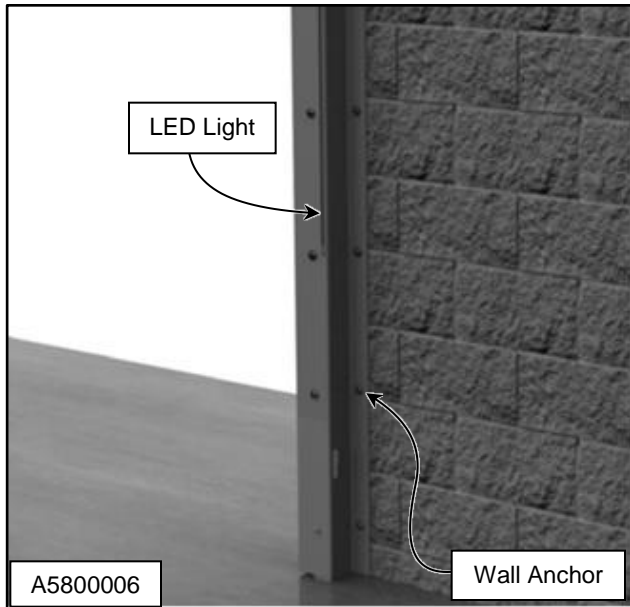

Figure 12
4. Anchor the side column (See "ANCHORING METHODS" on page 3). **DO NOT** tighten the anchors completely at this time - they will be tightened later on after the head assembly is installed. (See Figure 12)